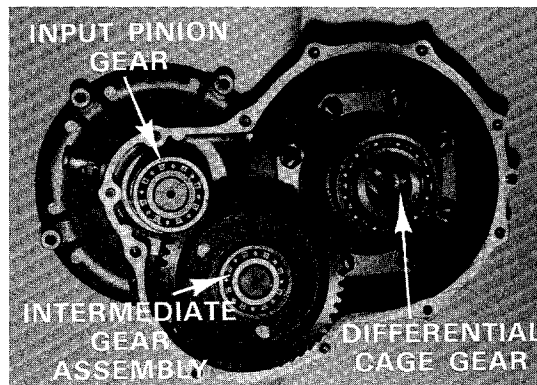

Figure 11-13
9. Remove the input pinion gear by rocking intermediate gear assembly and pull input pinion gear out. Lift intermediate gear assembly and the differential cage gear unit simultaneously and remove (**Figure 11-13**).